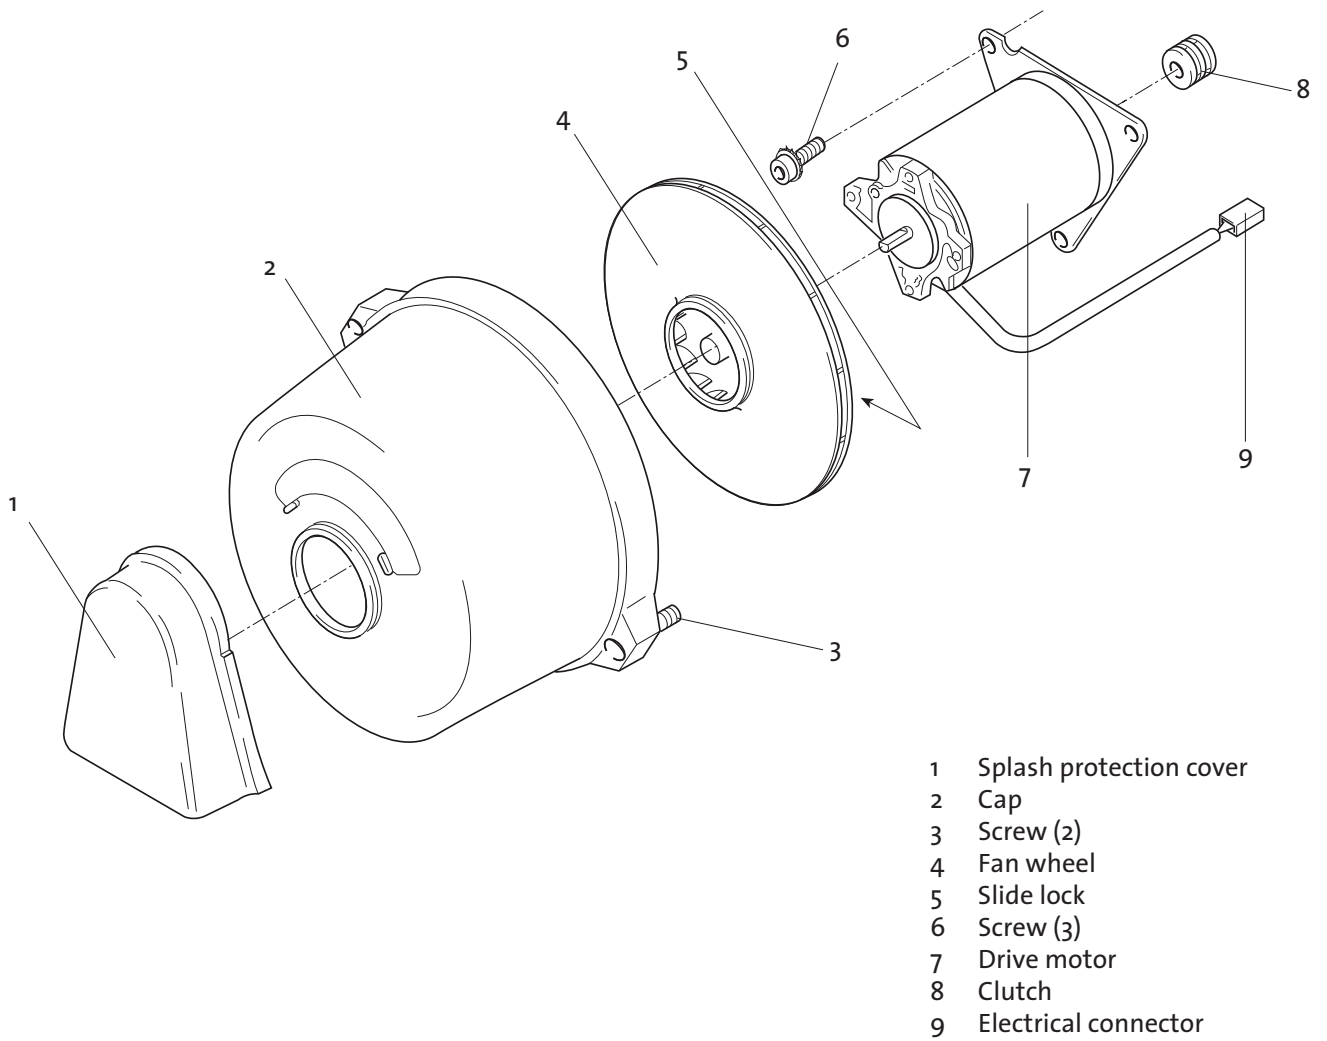

Figure 10: Combustion Air Fan, Replacement
1. Loosen screws (3, Fig. 10) and withdraw cap (2) from burner.
2. Using suitable tool (e.g. 1/8" pin punch) open slide lock (5) until fan rotor can be pulled off.
3. Disconnect electrical connector (9).
4. Remove screws (6) with lock washers and withdraw drive motor (7).
Drive motor (7, Fig. 10) to be aligned with control unit (recess in mounting flange) and with clutch (by rotating drive shaft).